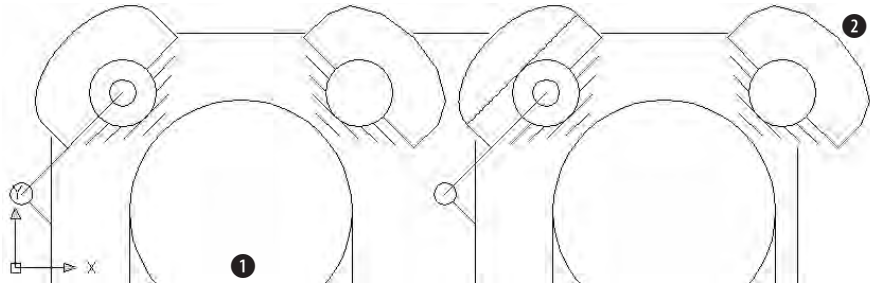

Figure 8-2: The air compressor is zoomed in so that you can see only part of the drawing.
1. Open ab08-a.dwg from the CD-ROM. This air compressor was used in an exercise in Chapter 7, but this display is magnified so that you cannot see the entire drawing. The air compressor is shown in Figure 8-2.
2. Choose Pan Realtime from the Standard toolbar. Move the cursor to ① in Figure 8-2, click, and drag to ②. The air compressor moves up and to the right. (Note that by the time you get to ②, the display of the air compressor has moved—but you should drag to where ② was on the screen.) Press Esc.